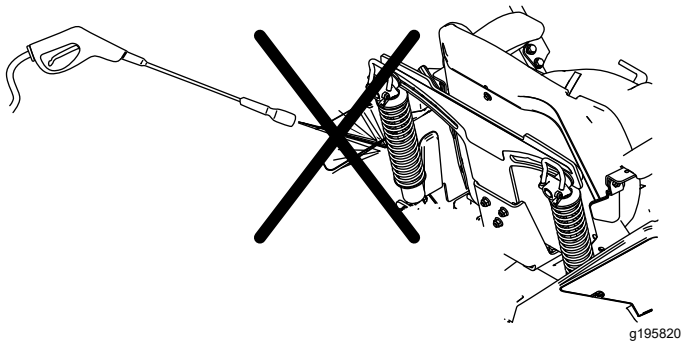

Figure 68
**Note:** Do not clean the shock assemblies with pressurized water (Figure 68).